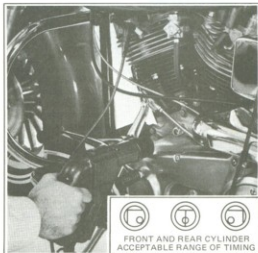

Figure 8-4. Checking Timing with a Strobe Light
1. Use a strobe flash light (timing gun) to view advanced timing mark (7) on flywheel through accessory plastic view plug, Part No. HD-96295-65, screwed into timing inspection hole (9). Make sure view plug does not touch flywheel.
3. Start engine and set engine at 2000 rpm. Light will flash each time spark occurs (see Figure 8-4).
4. Loosen timer plate screws (5) just enough so that plate (4) can be shifted using a screwdriver in notch (6) as light aimed into inspection hole (9) stops timing mark (7) in center of hole. Timing will retard 32° automatically when engine is at idle speed or is stopped.
5. Rear cylinder advance timing mark is a single large drilled dot which should appear on or near the front cylinder advance timing mark while viewing with timing light. See Figure 8-4.